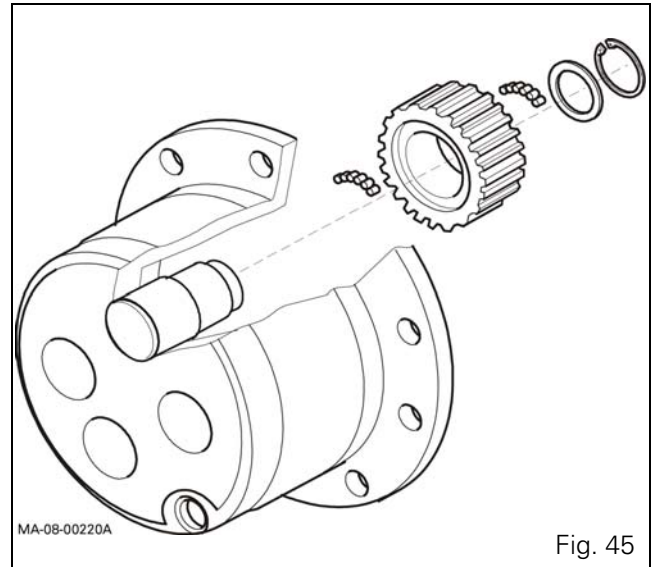

Fig. 45
38. Recover all epicyclic drive unit parts (Fig. 45).